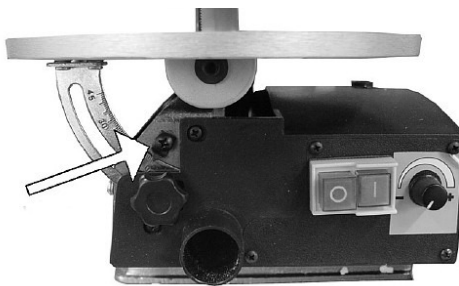

Fig. 16: Setting the scale
Step 2: Loosen the locking screw (Fig. 16) that fixes the scale display. Move the indicator to the 0 ° mark and tighten the screw.